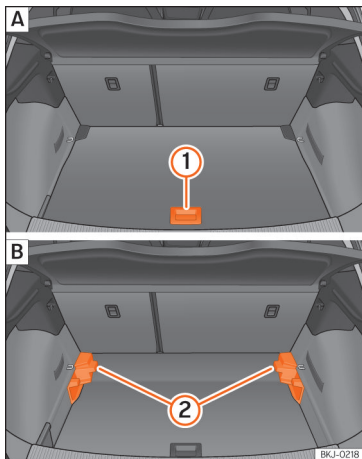

Fig. 118 Variable luggage compartment floor: **A** raised position; **B** lowered position.
- To move from the low position to the high position, lift the floor using the handle »» Fig. 118 ①, and pull it back until the front of the floor has fully passed the supports ②.
- Move the floor forward over the supports as far as the rear seat backrest and then lower the floor with the handle ①.
- To move from the high position to the low position, lift the floor using the handle »» Fig. 118 ①, and pull it back until the front of the floor has fully passed the supports ②.
- Now let the front part fall to the floor and slide the floor forwards as far as the rear seat backrest; lower the floor at the same time with the handle ①.
- Lift the variable floor in the high position using handle »» Fig. 118 ①, pull it up and push it towards the backrest of the rear seats until it folds along the hinge line and the movable part of the floor is resting on itself.